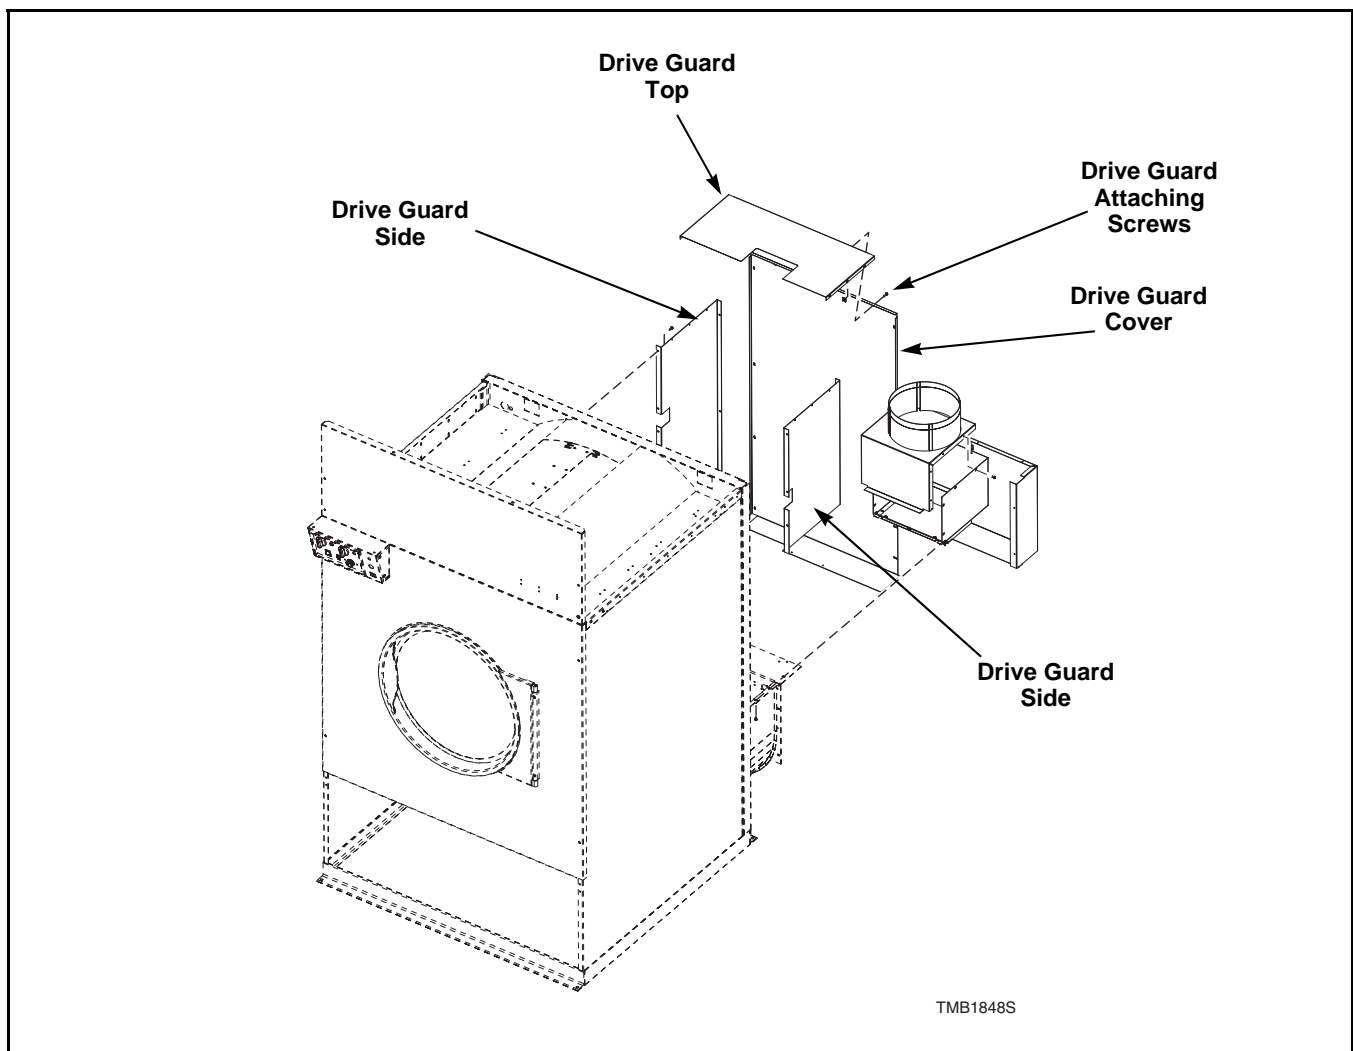

Figure 12
- Support drive guard cover and remove screws holding guard to rear of tumbler. Refer to *Figure 12*.
Refer to *Figure 12*.
- a. Support corner drive guard and remove screws holding corner drive to rear of tumbler. Refer to *Figure 12*.
- b. Support drive guard cover and remove screws holding guard to rear of tumbler. Refer to *Figure 12*.